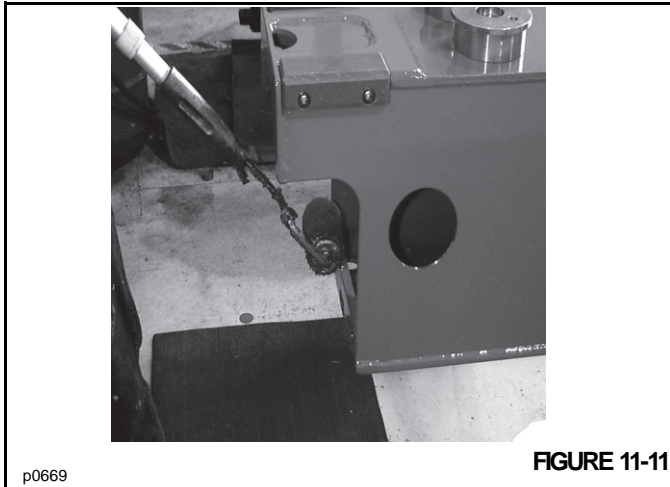

FIGURE 11-11
1. Coat the entire lower inside surface of the 2nd boom section with an anti-seize compound using a roller and rod (Figure 11-11). Coat the upper inside surface, where the 3rd section upper wear pads will slide, with anti-seize compound.